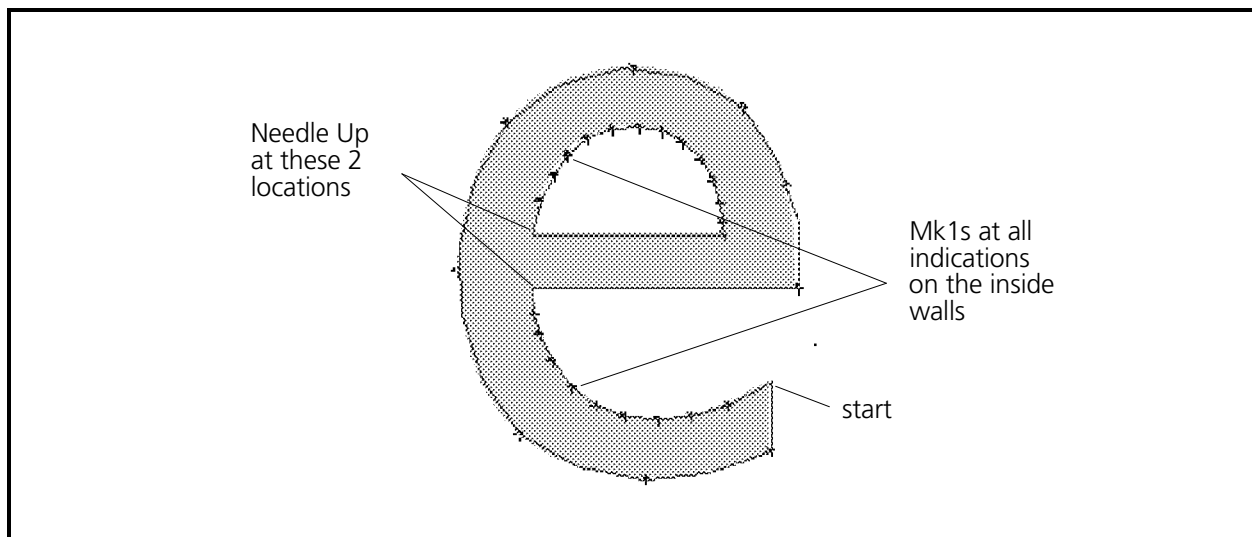

Figure 6-32
1. Enter Mk1s along the inside edge of the tail of the letter **e**. Generate these Mk1s at intervals that will allow the straight lines between them to stay closely aligned with the boundary of the wall (see Figure 6-32).
2. When you get to the crossbar put a Mk1 in the corner (see Figure 6-32).